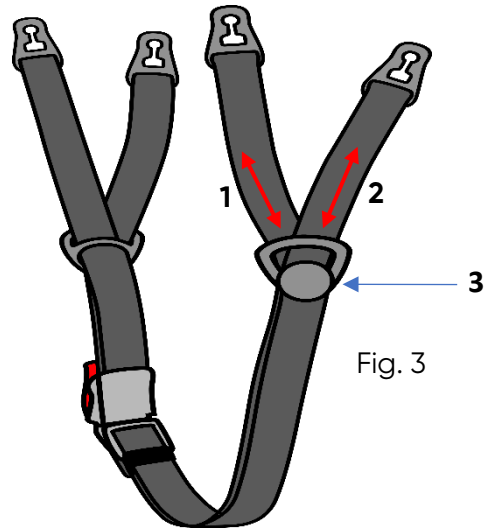

Fig. 3
The chinstrap (Fig. 3) has a length adjustment, individually for the left and right of the strap. For each part, the length of the front (1) and rear (2) sections can be changed by sliding the strip through the splitter (3).